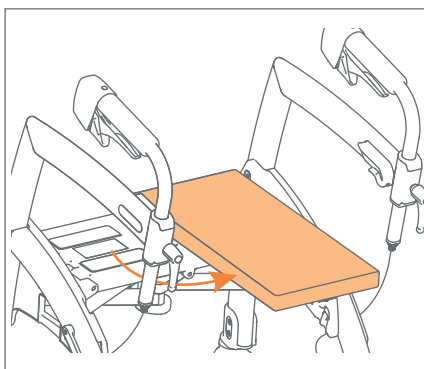

Figure 10: Place the seat cushion crosswise.
- c. Pull the seat cushion away, turn it 90 degrees and place it crosswise on the side of the red handle (**Figure 10**).